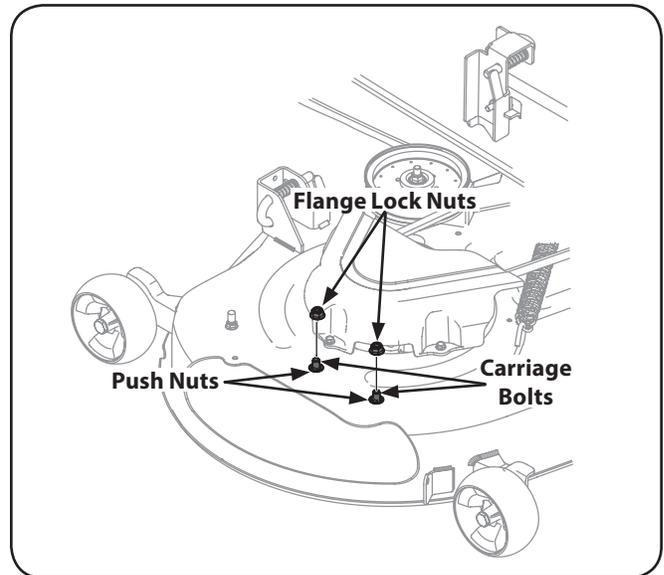

Figure 3-2
2. Remove the flange lock nuts from the deck. Do not remove the push nuts or carriage bolts, leaving them in place will aid in installing the chute. See Figure 3-2.